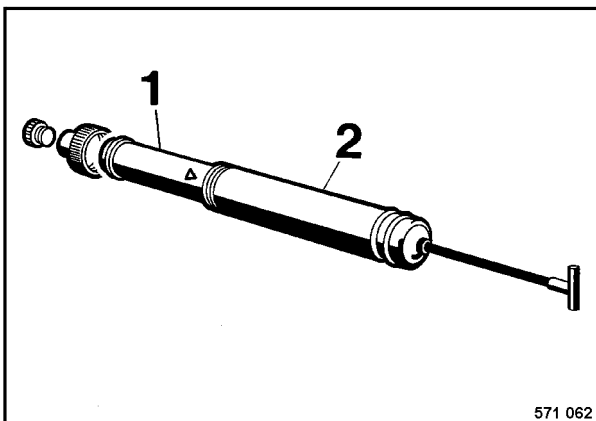

Fig. 15
- Remove both covers from the cartridge 1 (Fig. 15).
- Unscrew the connecting fitting from the manual grease gun (2).